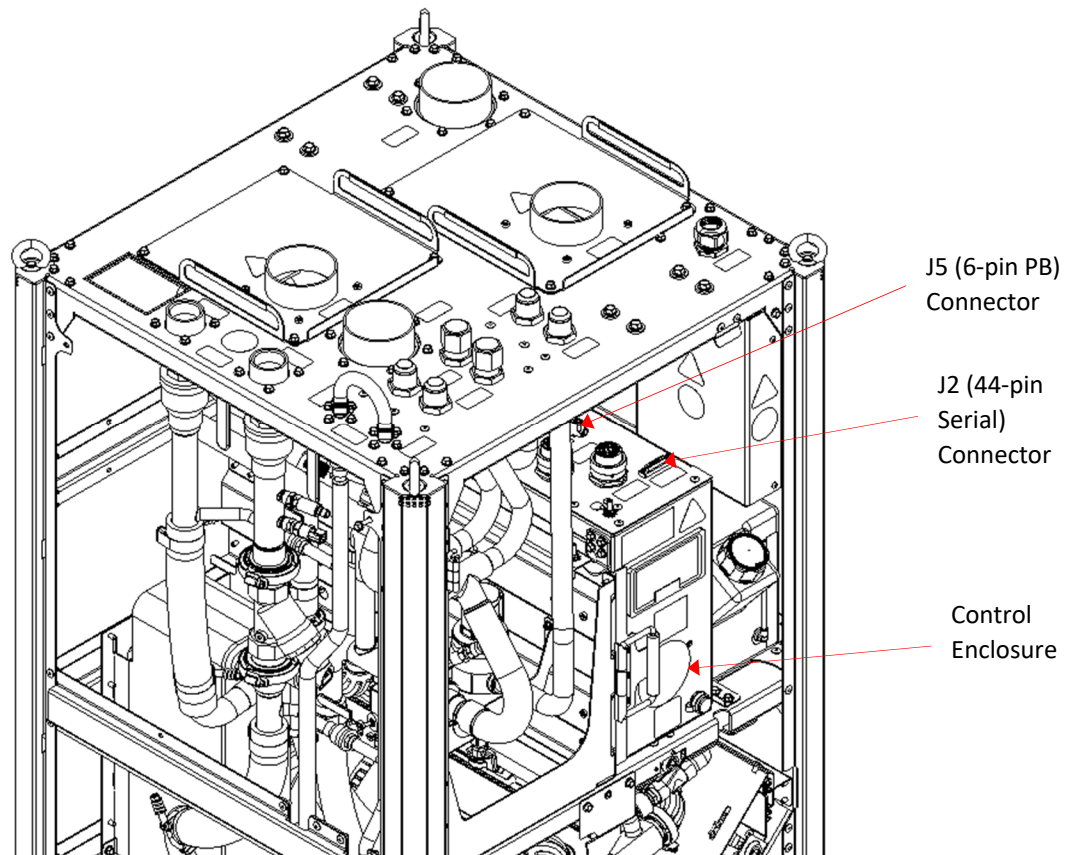

Figure 2-20: Control Enclosure and J2 and J5 Connectors
2. Route the 44-pin serial cable through the opening in the rear of the lid, 14 (refer to Figure 2-17) towards the Control Enclosure (refer to Figure 2-20).
3. Connect the cable to the J2 connector (refer to Figure 2-20). Note: This connector is keyed so only one orientation is possible.
2. Route the 6-pin cable through the opening in the rear of the lid, 14 (refer to Figure 2-17) towards the Control Enclosure (refer to Figure 2-20).
3. Connect the cable to the J5 connector (refer to Figure 2-20). Note: This connector is keyed so only one orientation is possible.